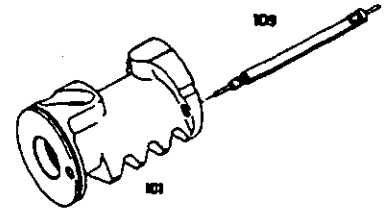

Fig. 13
The tappet of the valve insert (109) (*see Fig. 13*) installed in piston (101) must not be damaged.
7.3 Check the valve insert (109) installed in piston (101) (*see Fig.13*) for radial or axial play, mechanical damage and any internal leaks.
Release caulking and screw valve insert (109) out of piston (101) with tool [2] (Fig. 13).